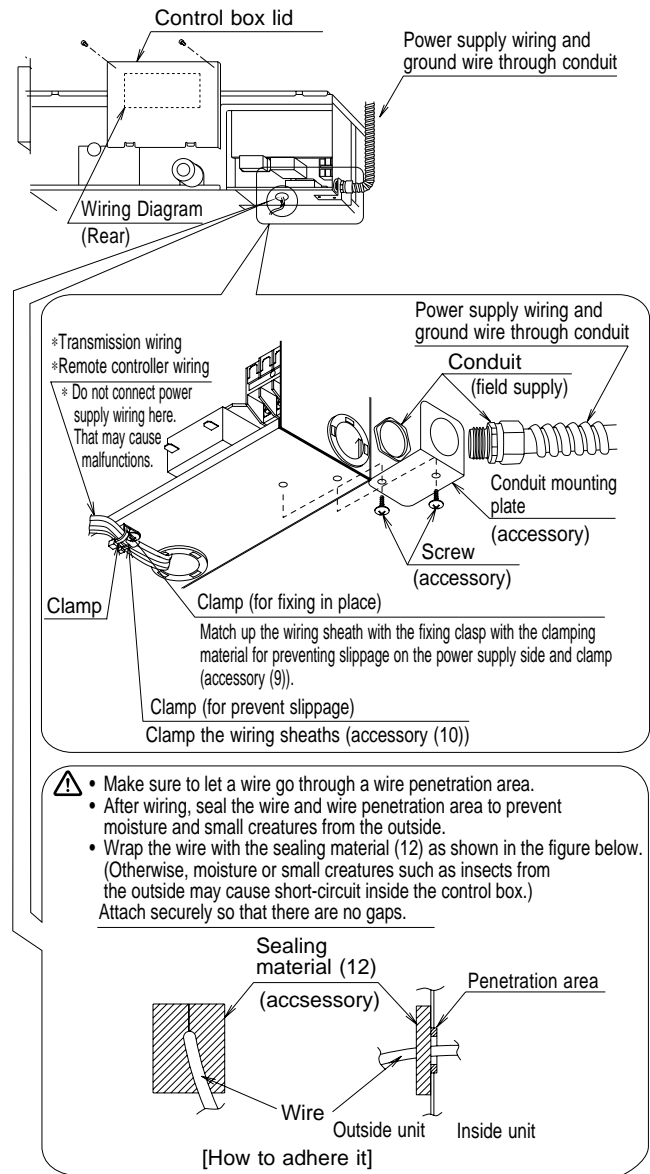

Fig. 14
- Remove the lid of the control box. Connect the remote controller and power supply (single-phase, 60Hz 208-230V) respectively to the terminal block and securely connect the ground also as shown in the figure below. Securely clamp the cables with the accessory clamps (9)(10) as shown in Fig. 14 so that tension will not be applied on the cable connection areas.
- Wire only after removing the control box lid as shown in Fig. 14.
- When clamping the wiring, use the included clamp material (9) and (10) as shown in the Fig.14 to prevent outside pressure being exerted on the wiring connections and clamp firmly.